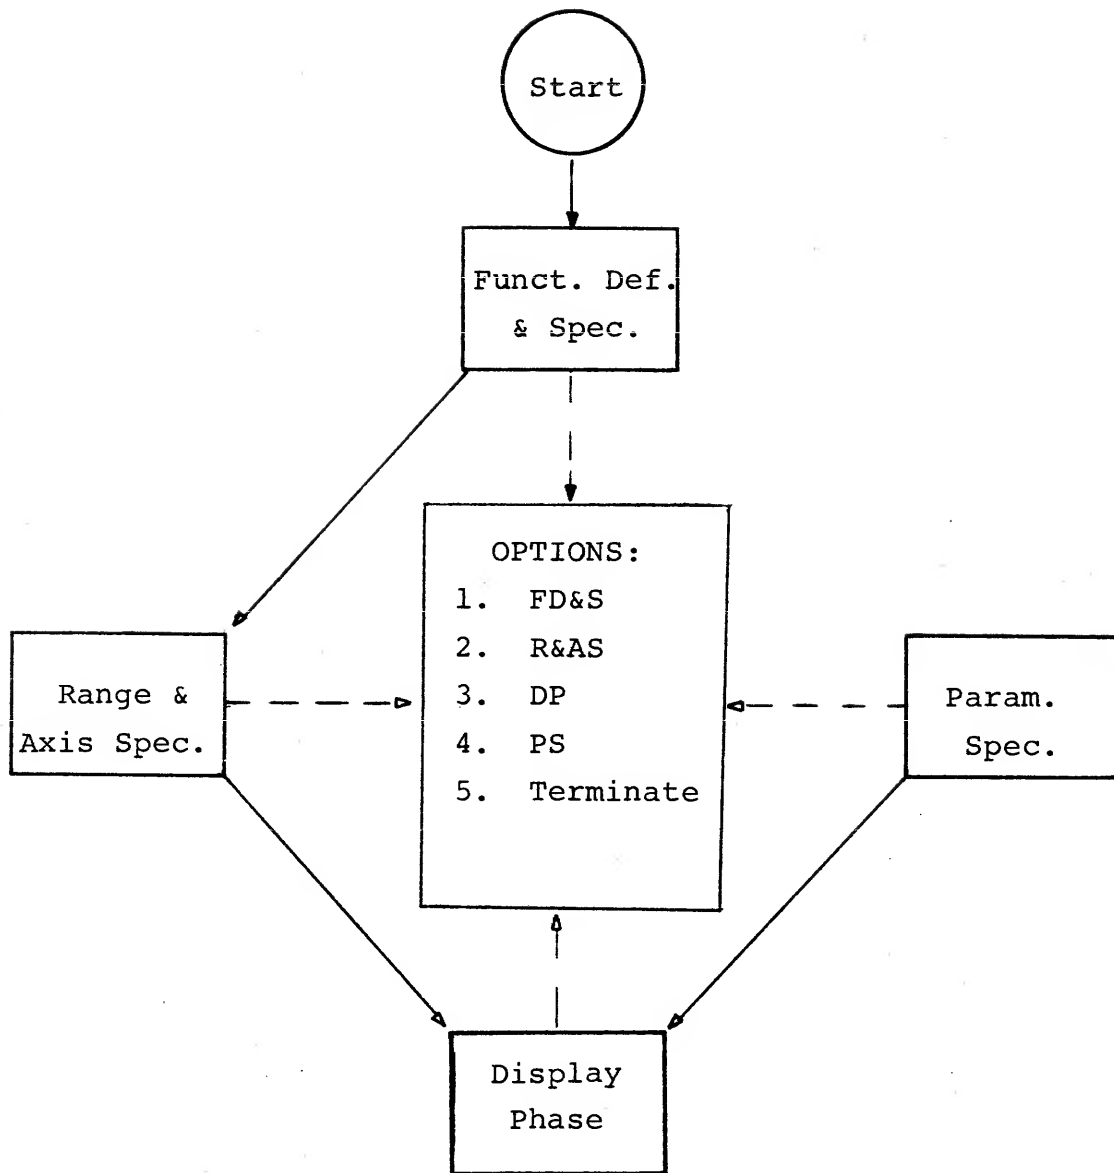

Figure 1
- C) Display Phase (DP)
- D) Parameter Specification (PS)
To utilize GROPE efficiently it is necessary to understand the purpose of each phase, the relationships between phases, and how to transfer from one phase to another. A schematic representation of GROPE is shown in Figure 1. The solid lines indicate the natural flow from one phase to another and this is achieved by depressing the carriage return button (CR)† at the end of each phase. The natural flow of GROPE is the same as the procedure followed when producing graphs by hand. That is, the first phase, FD&S, allows functions to be defined, parameter values to be assigned, and specification of the types of plots to be made. The second phase, R&AS, requests information concerning the extremities of the axis and the location of the axis origin. When the pre-plotting information is complete, the Display Phase is entered, axes drawn, plots labelled, and the specified functions plotted.
Program execution should be terminated by typing QUIT,T(CR) which is the last option shown in Figure 1. This type of orderly termination allows the GROPE staff to keep statistics on the use of the system.